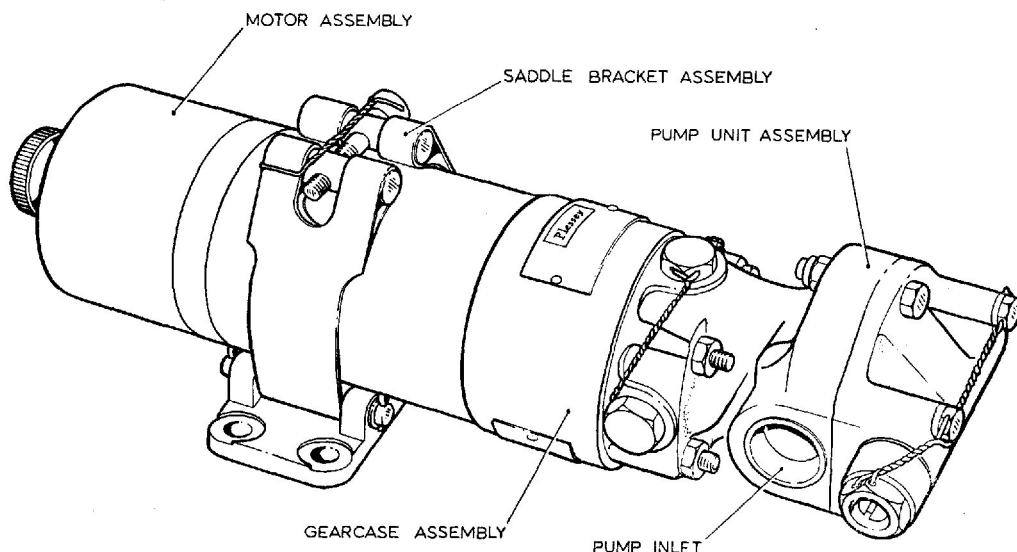

Fig. 1. General view of DP022-1 pump
1. The Plessey DP.022-1 (Fig. 1) is a self lubricating, single stage, spur gear pump, driven by its own electric motor via a 4:1 reduction gearbox. The pump is used for engine fuel filter de-icing. A saddle type bracket is provided to facilitate attachment of the pump to the aircraft.